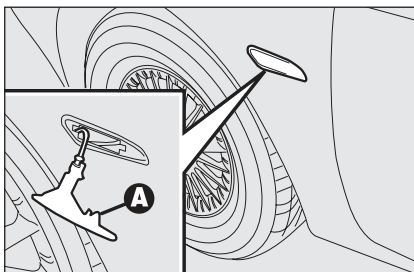

fig. 30
- ☐ push the lens by hand in opposite running direction in order to press the catch **A-fig. 30**. Release the front part and remove the unit;
- ☐ fit the bulb holder **B** into the lens **C** then position the unit, the catch shall click into place **A-fig. 30**.